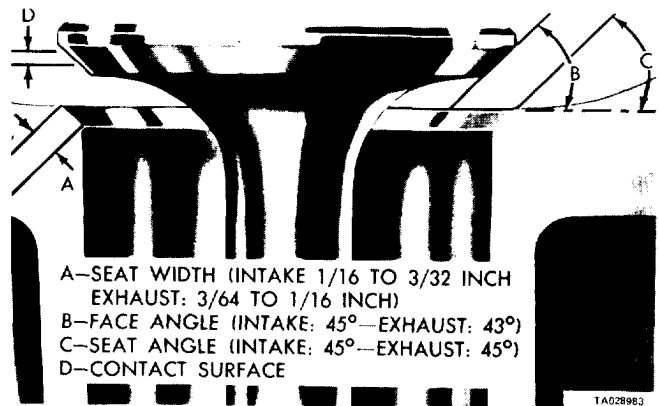

Figure 11-20. Valve Face and Seat Angle.
(1) The intake and exhaust valve faces and seats have a 45 degree angle. These angles are shown in figure 11-20.